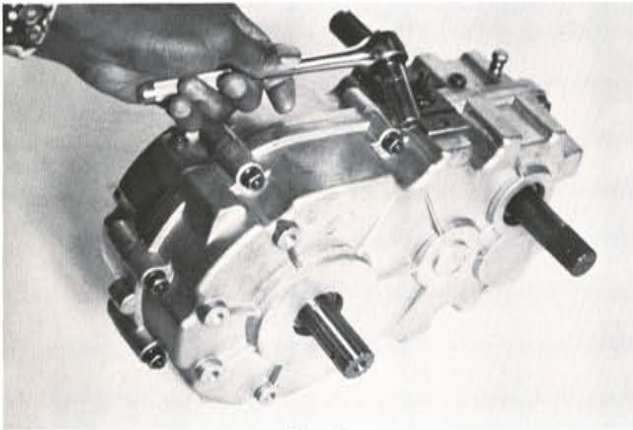

Fig 6
3. Remove the ten bolts that secure transaxle cases. (Fig 6)